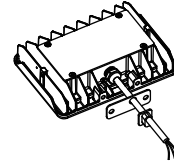

figure 1.4
- Step 2: pass the wire through hardware and rubber mat; (figure 1.4)